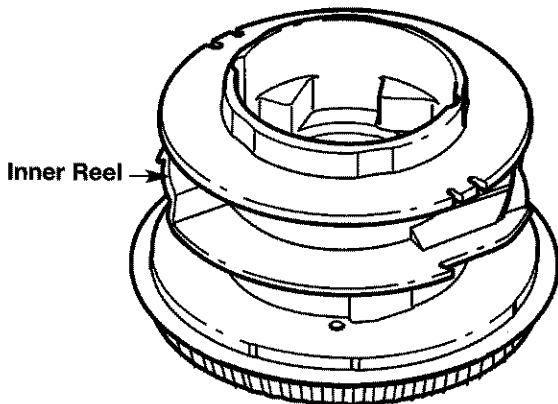

Fig. 27
4. Remove any existing line from the inner reel before cleaning. Remove any debris or grass from the knob, spring, inner reel, and foam seal. Wash the inner reel with warm soapy water (Fig. 27).